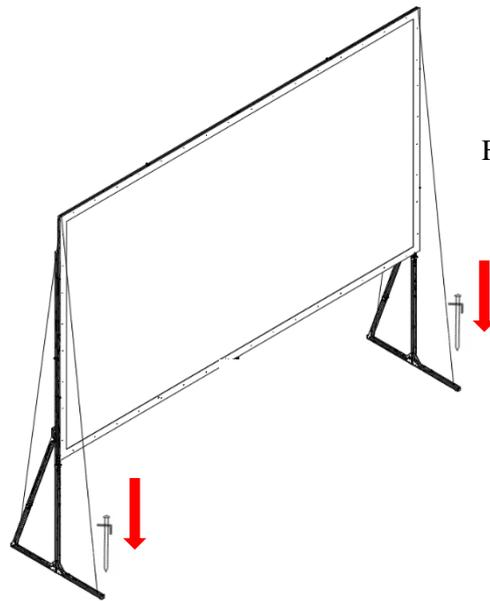

Fig 18
1. To secure the frame, place a *stake (K)* into each hole located on the frame footing, and hammer it into the ground. Finally, tie the 4 *ropes (I)* to the stakes and through the *eyebolts (J)* to prevent the screen from tilting or falling over. As shown in Fig. 18